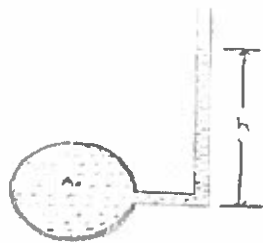

Fig 2.8. Piezometer.
2.6.1 Piezometer: It is the simplest form of manometer used for measuring gauge pressures. One end of this manometer is connected to the point where pressure is to be measured and other end is open to the atmosphere as shown in Fig 2.8. The rise of liquid gives the pressure head at the point. If at a point A, the height of liquid say water is h in piezometer tube, then pressure at A